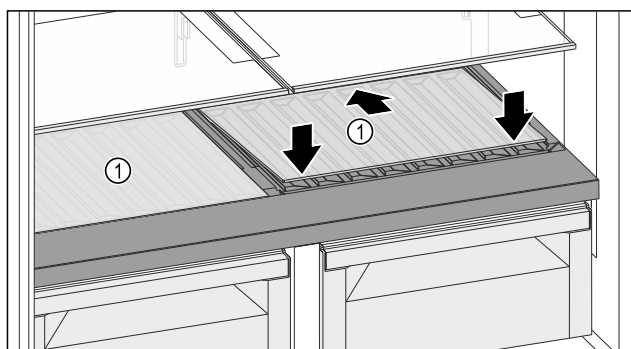

Fig. 123
- Place the glass shelf Fig. 123 (1) at an angle, tilted back and down.
- Lower the glass shelf Fig. 123 (1) at the front.